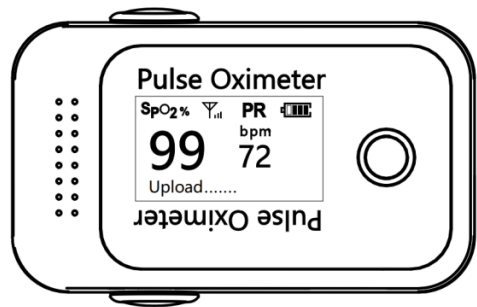
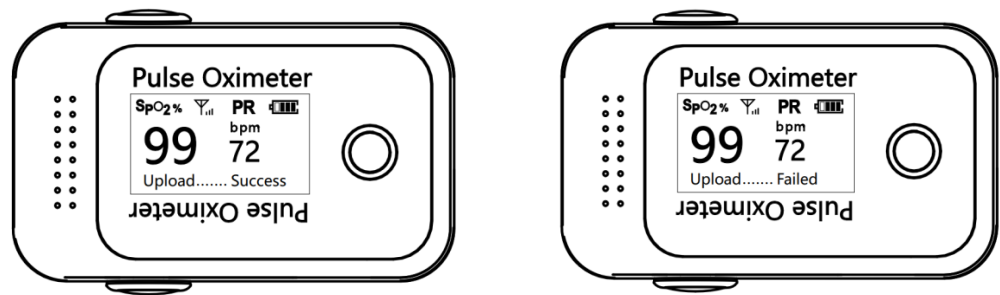
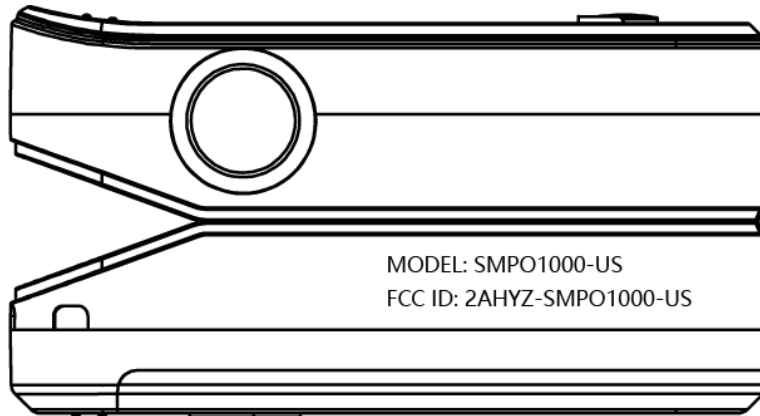

Figure 11
Figure 12
Figure 13
d. When the measurement is finished and the network is available, the upload procedure will be started automatically, as shown in **Figure11**, and it will end with success or failed, as shown in **Figure12** and **Figure13**. If the upload is failed, the current measurement record will be saved automatically and re-uploaded at next time.